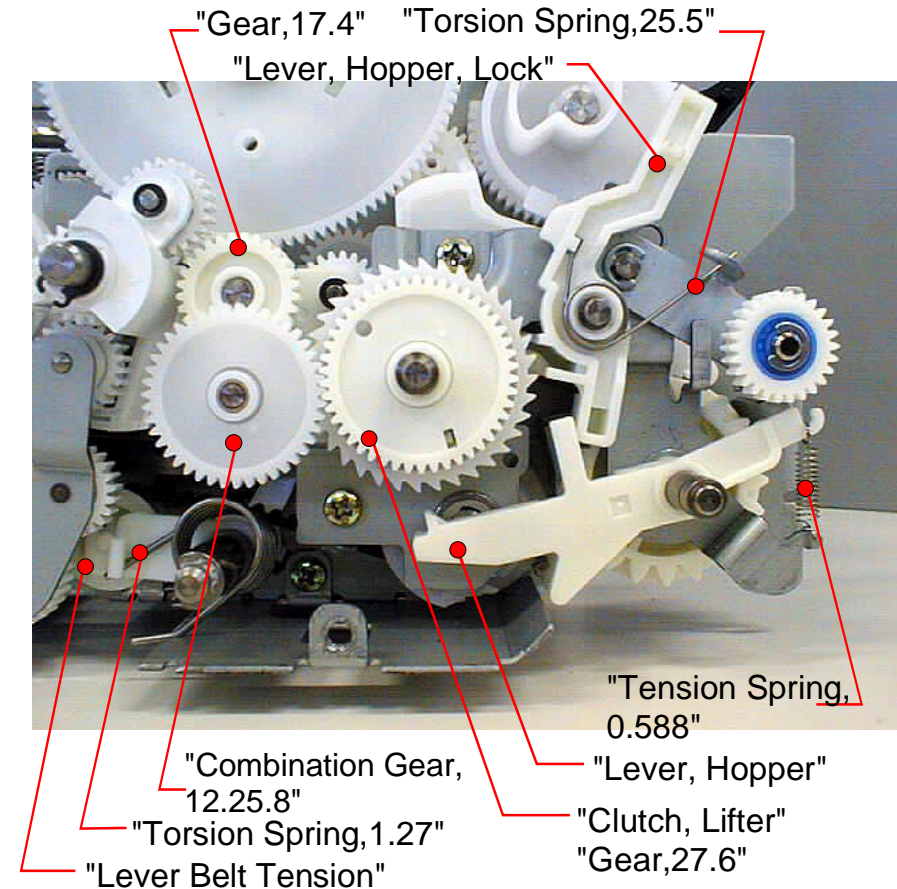

Figure 4-124. Installing the rest parts of "Frame Assembly, Middle, Right"(1)
45. Install "Gear,17.4". (Refer to Figure4-124)
(Refer to Figure4-124)
47. Install "Combination Gear, 12,25.8".(Refer to Figure4-124)